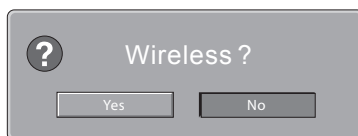

Figure 22
4. Press the Navigation ►RIGHT Push-button and the On-Screen Display changes to show a window. Refer to figure 22.